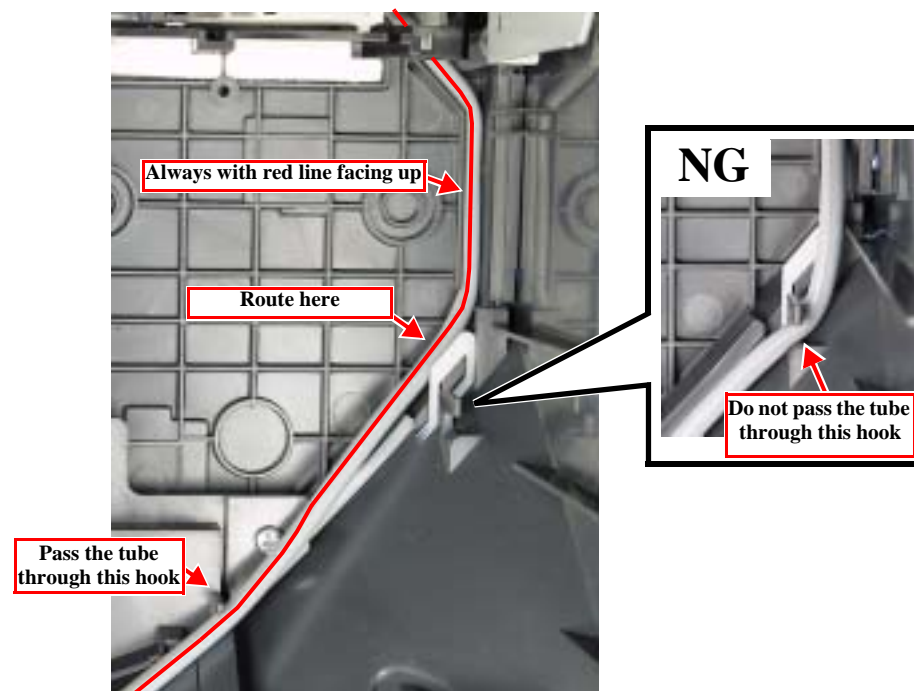

Figure 4-27. Notes on Installation of the Waste Ink Tray Assy
- Route the Waste Ink Tube with the red line always facing up so that the tube is free from distortion. And with the tube passed through the hook as shown in the figure, install the Waste Ink Tray Assy. (Fig. 4-27)